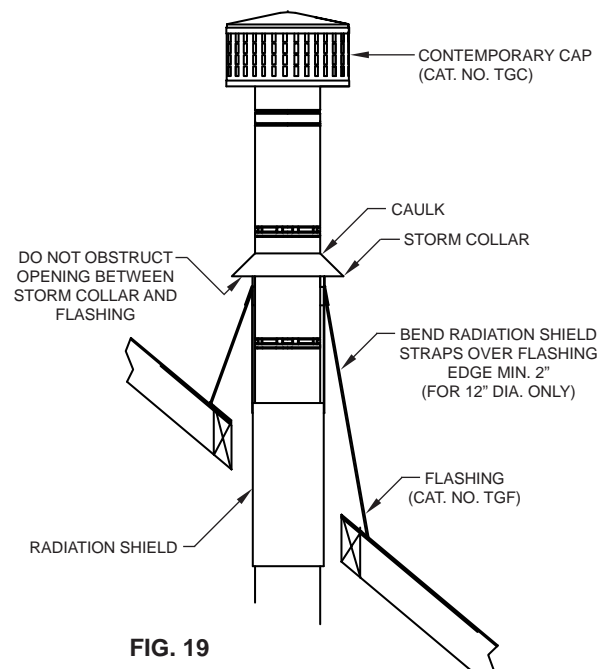

**FIG. 18**
2. Install the next TG chimney section through the roof. See **FIG. 18**. For 12" chimney only, install a radiation shield (TGRSH) over the chimney section so that the shield straps can be temporarily bent over the roof to hold in place. After installing the flashing, these straps will be attached to the flashing as shown in **FIG. 19**.